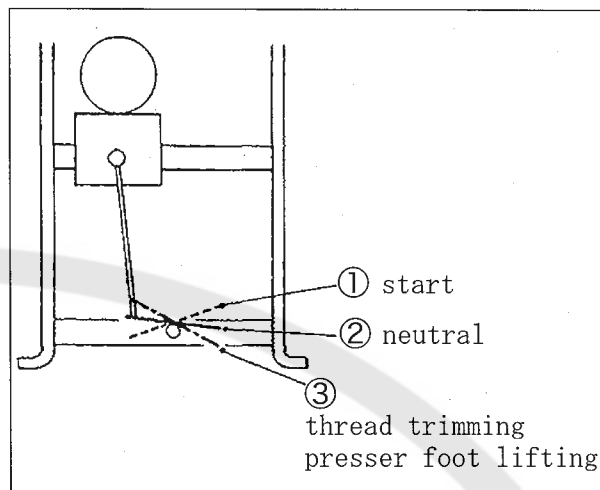

Fig. 2
- (1) Place a fabric under the presser foot and toe down the pedal. (Fig. 2 ①)
- (2) Release the pedal. (Fig. 2 ②)
- (3) Heel back the pedal. (Fig. 2 ③)
- (4) Release the pedal. (Fig. 2 ②)